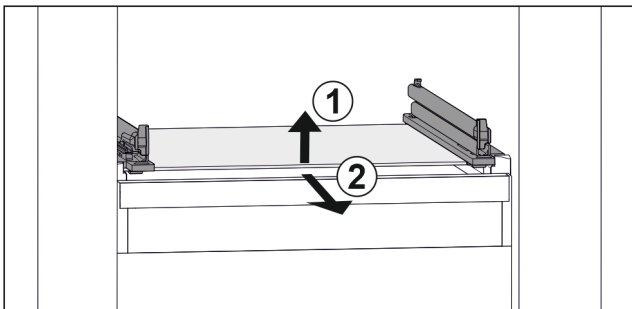

Fig. 133 Example illustration of glass shelf
- ▶ Lift glass shelf at the front. Fig. 133 (1)
- ▶ Take out glass shelf to the front. Fig. 133 (2)